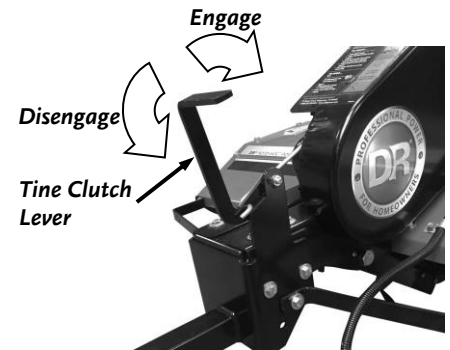

Figure 16
- Push the Tine Clutch Lever towards the back of the machine to engage the Tines (**Figure 16**).
- Pull the Tine Clutch Lever Forwards to disengage the Tines (**Figure 16**).